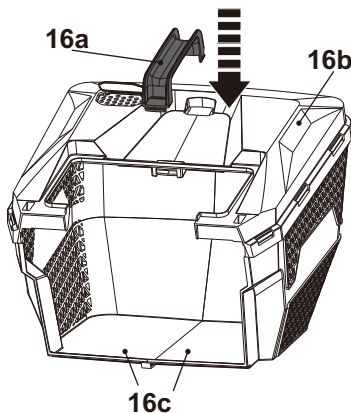

Fig. 6
- Fit the carry handle (16a) into the top of the grass catcher (16) (Fig. 6).